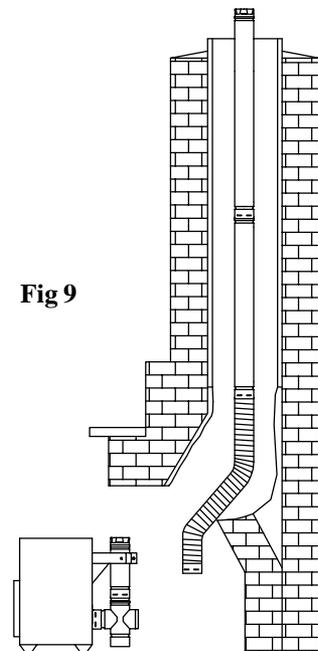

Fig 9
7. Repeat this process for the remainder of the pipe sections, and lower the assembly down the chimney as shown in Figure 9. Lower it below its normal position in order to connect the Flex Pipe to the pipe on the appliance. It may be necessary to tie a line to the top section, to pull it back up later.